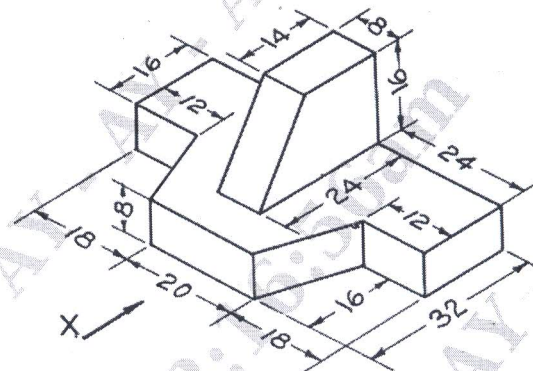

Figure.1
- Q.No.1** Figure.1 Shows a Machine Component. Draw the following Views (a) Front View (b) Top View. **(15 Marks)**
- Q.No.5** Details of "MACHINE VICE" is shown in following figure 1. Assemble the parts and draw the following views. i. Sectional front view ii. Top view. **(50 Marks)**